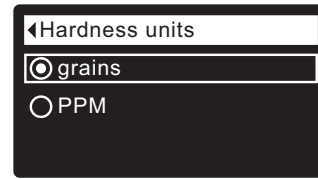

FIG. 62
1. From any of the rolling status screens, press the SELECT (O) button to display the **Main menu**.
3. Press the SELECT (O) button to display the User preferences menu.
5. Press the SELECT (O) button to display the Hardness units menu (See Figure 62).
6. If the desired hardness unit already has a dot next to it (See Figure 62), go to Step 7. Otherwise, press the DOWN (▼) or UP (▲) buttons to scroll to the other hardness unit, then press SELECT (O) to choose it.
7. Press the SELECT (O) button. The display will go back to the User preferences menu.